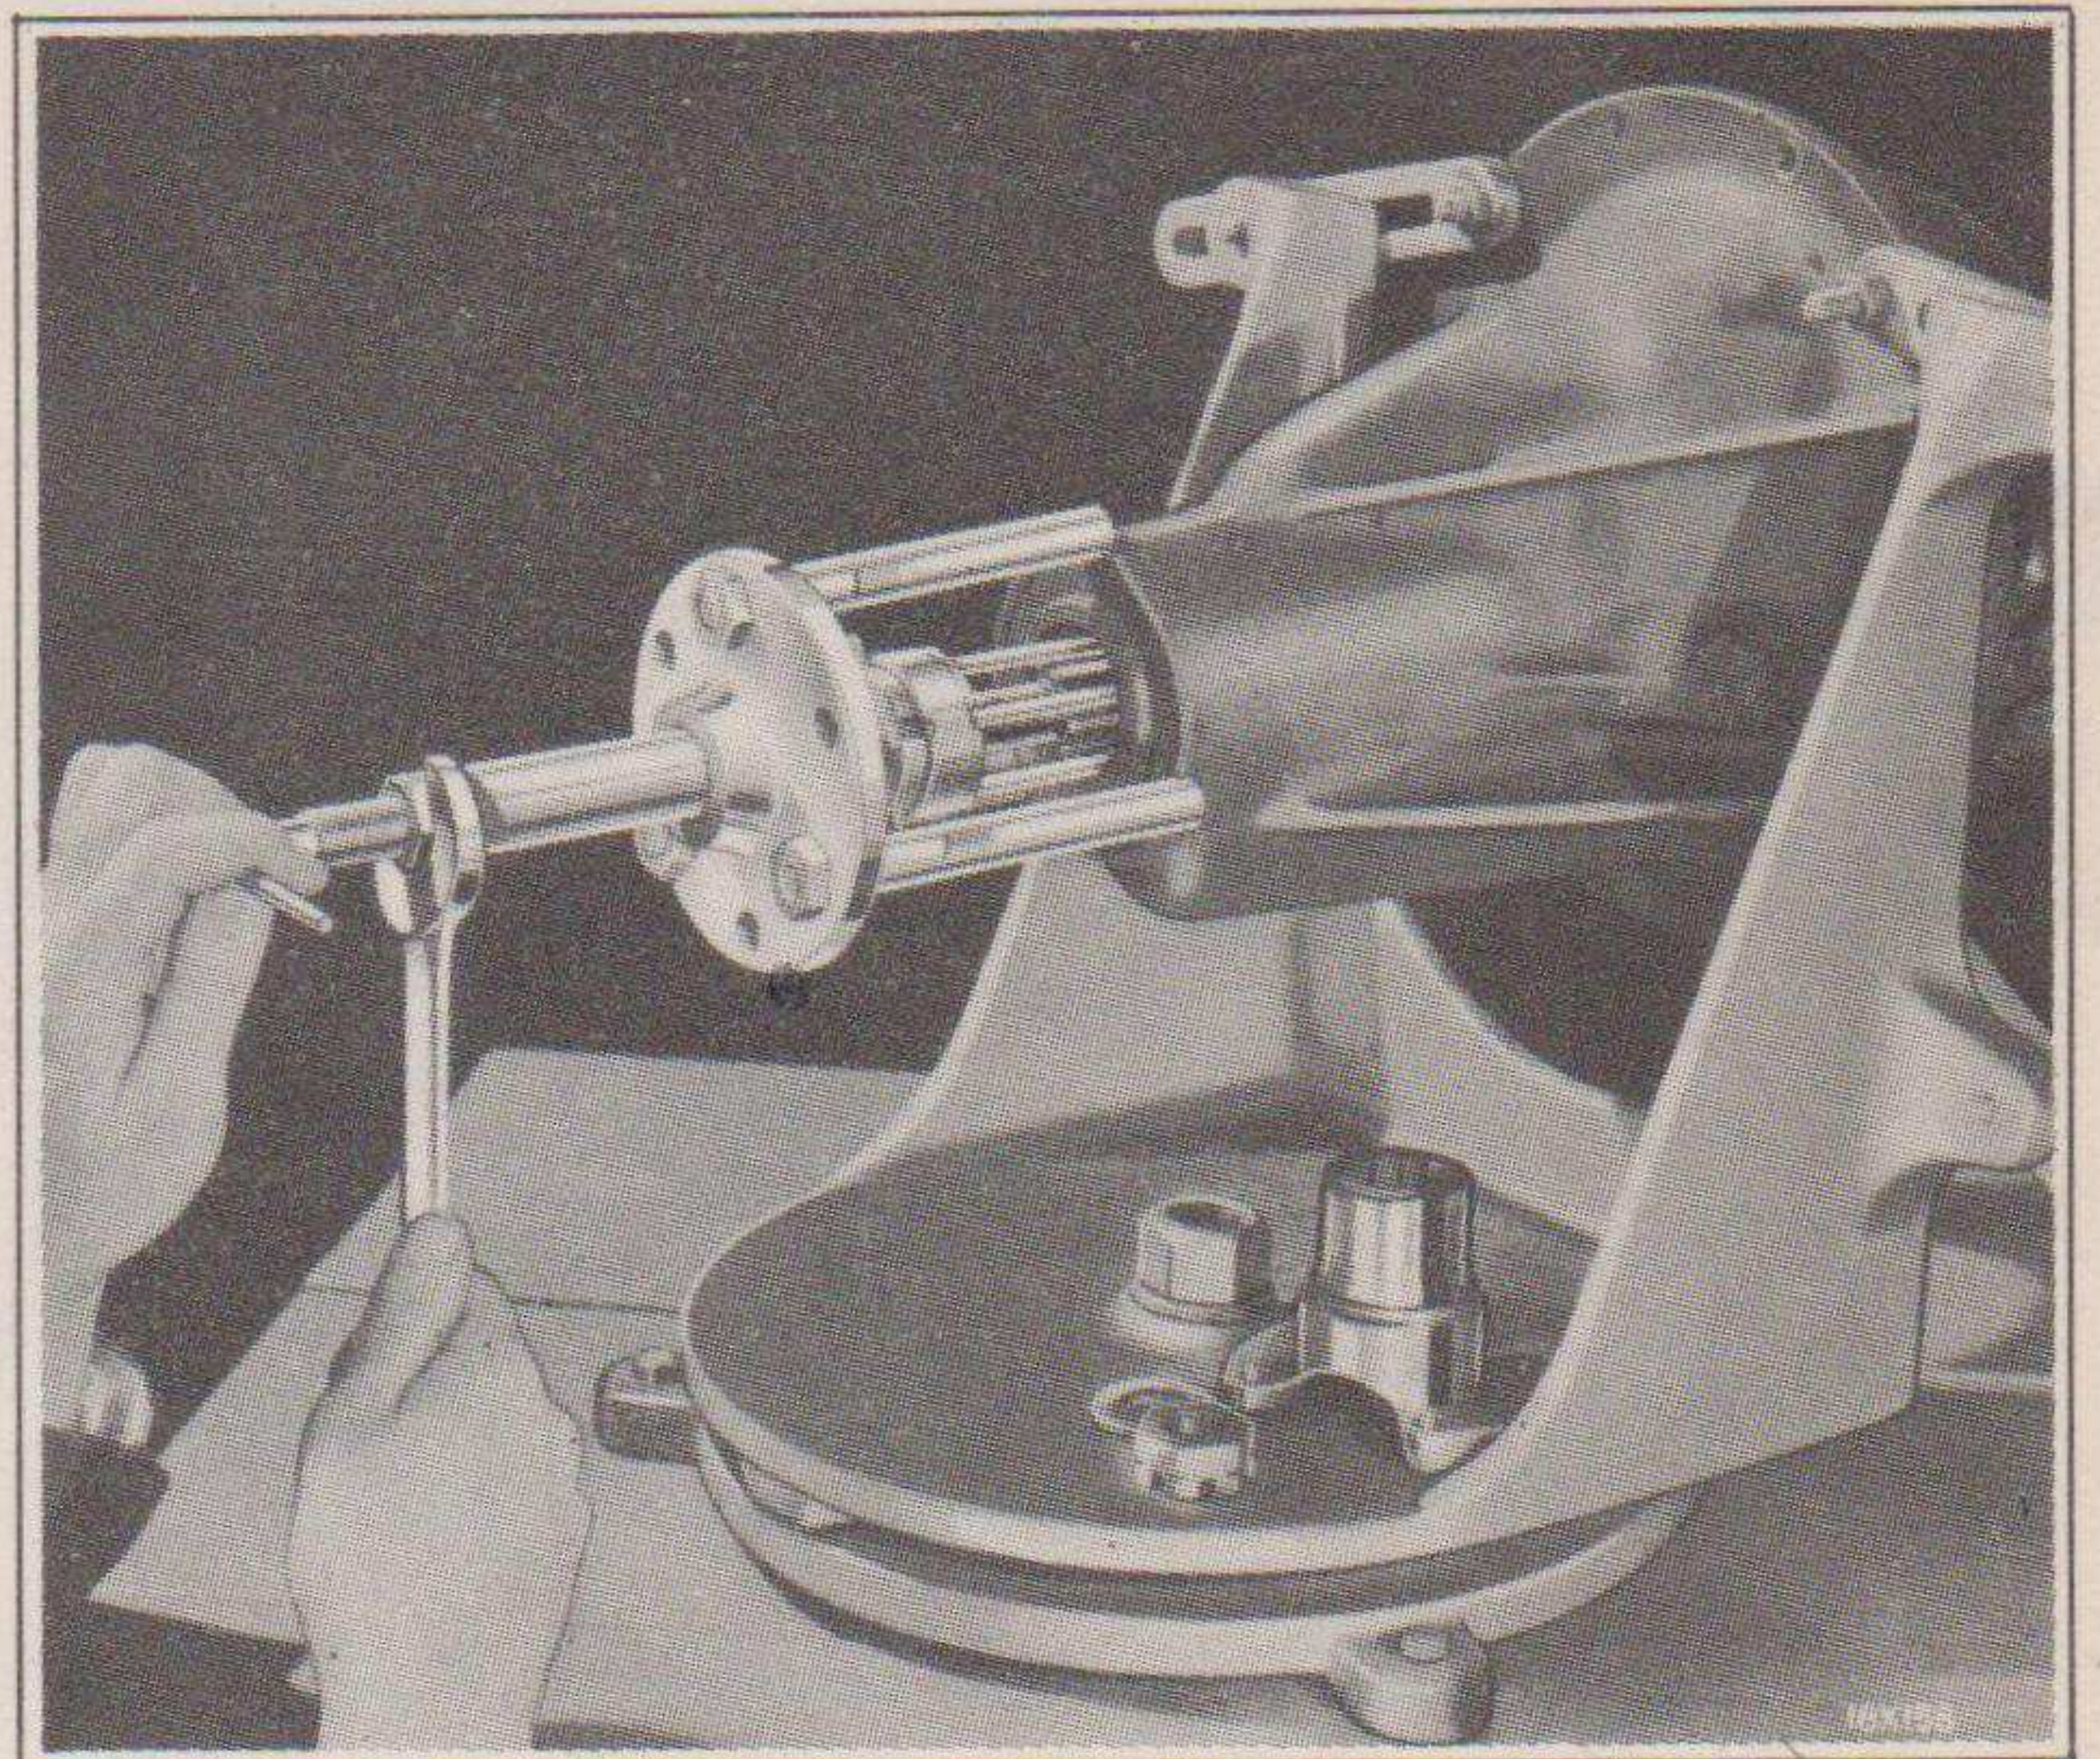

Fig. 61—Removing Drive Pinion Bearing Oil Seal with Tool C-358
moved from the carrier case after pulling out the oil seal with special tool C-358, See Fig. 61. When removing this oil seal be careful not to lose the washer and oil slinger between it and the bearing cone. The bearing cups can be driven out of the case with a drift and hammer.
- (c) Remove the drive pinion bearing oil seal by means of special puller tool C-358 (See Fig. 61). Inspect the oil seal and replace with a new one.